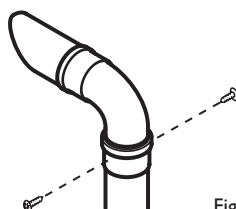

Fig. 24
14. Fit the 93° elbow/plume outlet and secure with the two remaining screws supplied. Ensure the plume outlet is at least 45° to the wall and that the 'peak' is uppermost (Fig. 24).